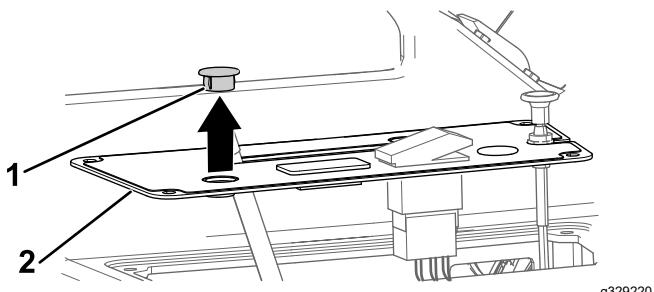

Figure 4
2. Remove the round plug from the control-panel cover (Figure 4).